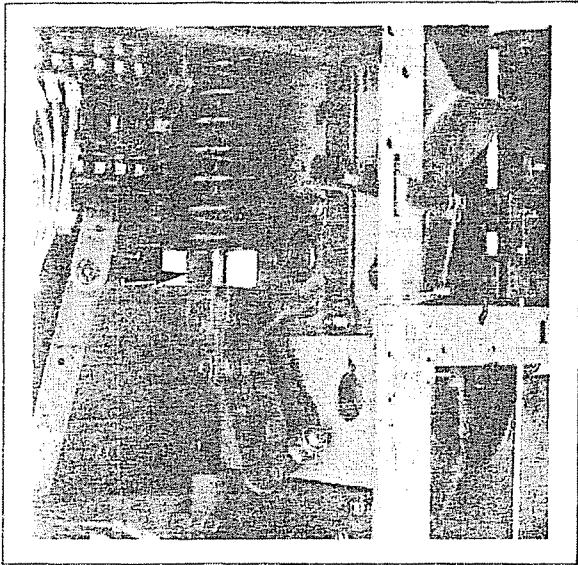

Figure 53
2. Lubricate the opening and closing spring guide slides using a low temperature grease. See Figure 53.